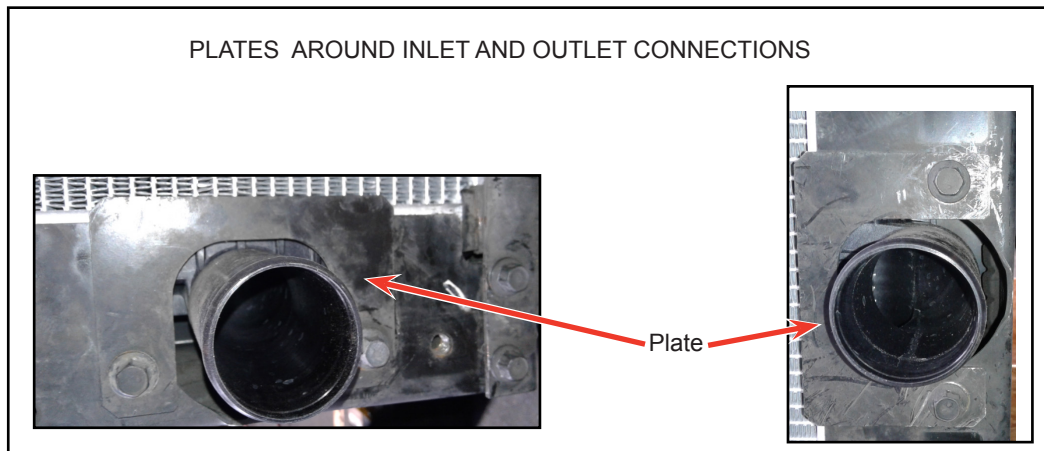

Figure 5 - Typical View of Radiator Frame Disassembly
- 1.21. Remove the plates around the inlet and outlet connections (see Figure 5).